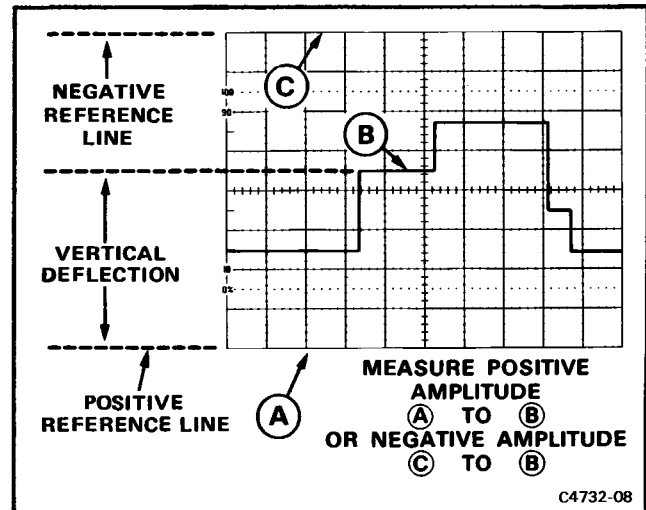

Figure 4-2. Instantaneous voltage measurement.
9. Measure the divisions of vertical deflection between the ground reference line and the point on the waveform at which the level is to be determined (see Figure 4-2).
EXAMPLE: The measured vertical deflection from the reference line is 4.6 divisions (see Figure 4-2), the waveform point is above the reference line, a 10X attenuator probe is being used, and the VOLTS/DIV switch is set to 2 V (at 10X probe setting).